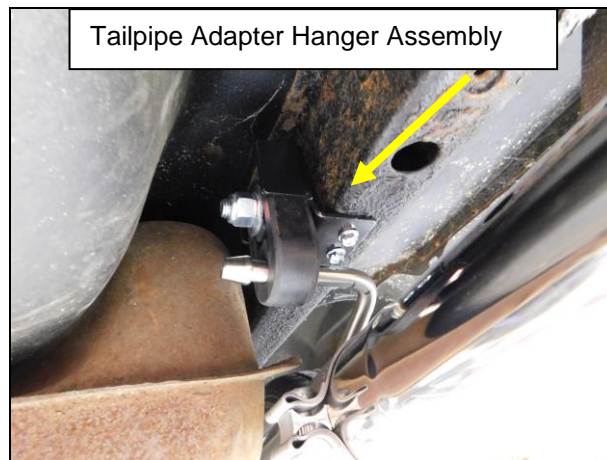

Figure 10
18. Install a clamp on to the left tailpipe adapter expanded end. Install the expanded end of the tailpipe adapter on to the over-axle pipe with the hanger rod facing inward. Insert the hanger rod into the rubber isolator (**Figure 10**).